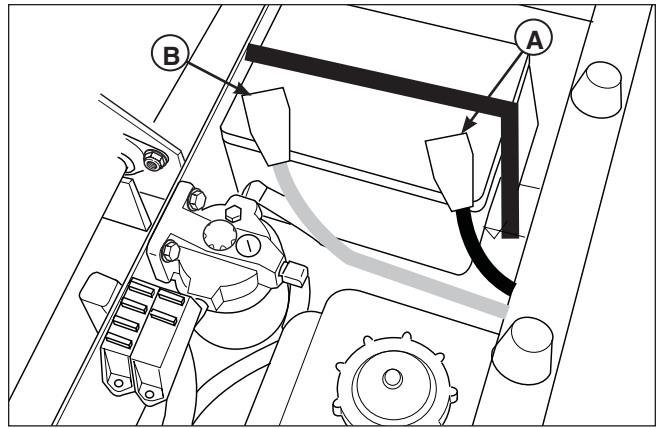

Figure 25. Battery Compartment
1. Disconnect the cables from the battery, negative cable first (B, Figure 25).
4. Reinstall the battery and reattach the battery cables, positive cable first (A).